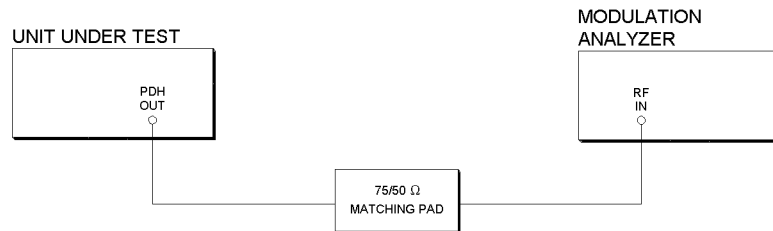

Figure 3-50
3. Connect up the equipment as shown in Figure 3-50.